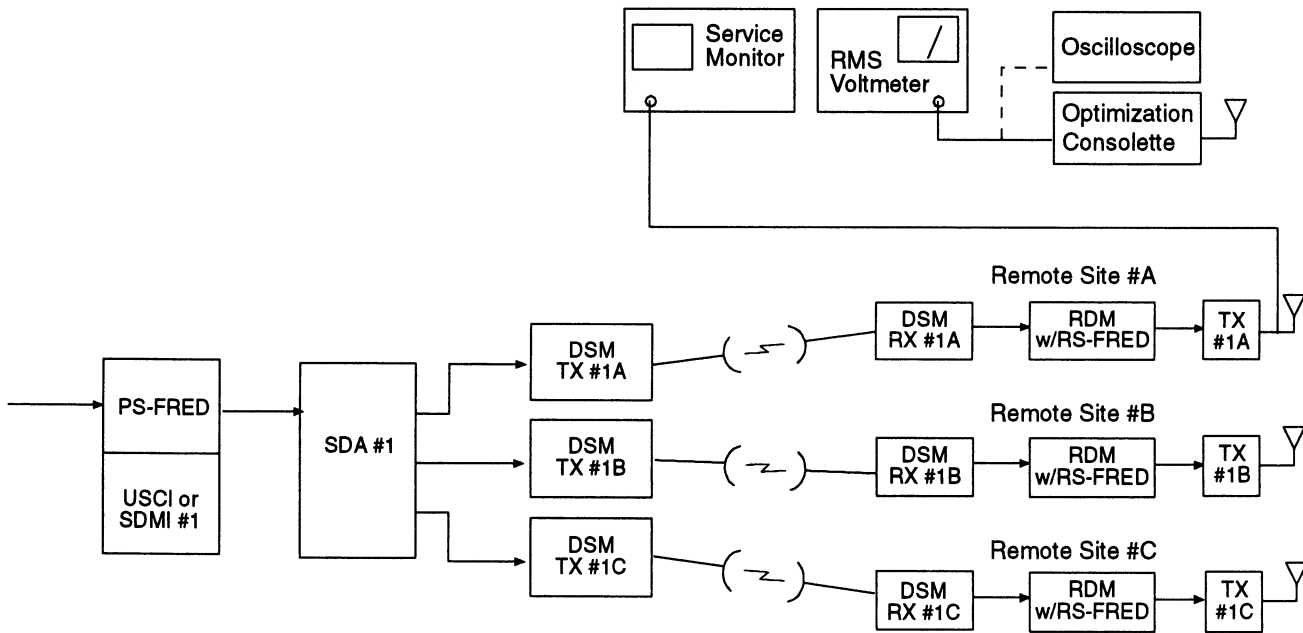

Figure 36. Four-level Deviation Adjustment Equipment Set Up
- Step 2. Refer to Figure 36 and set up your equipment to adjust coded deviation in a four-level system.